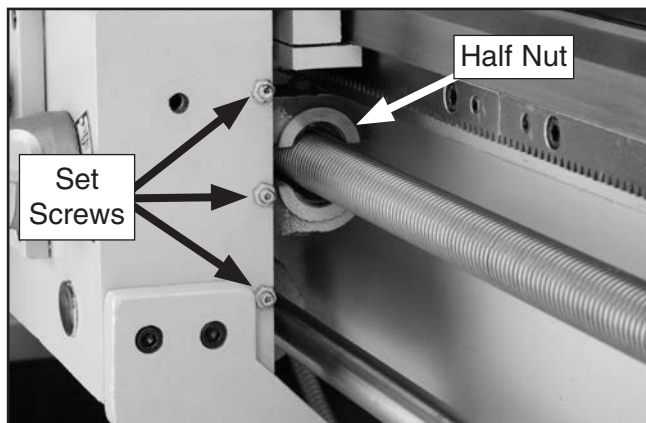

Figure 95. Half nut gib set screws.
3. Loosen the hex nuts on the set screws shown in **Figure 95**.